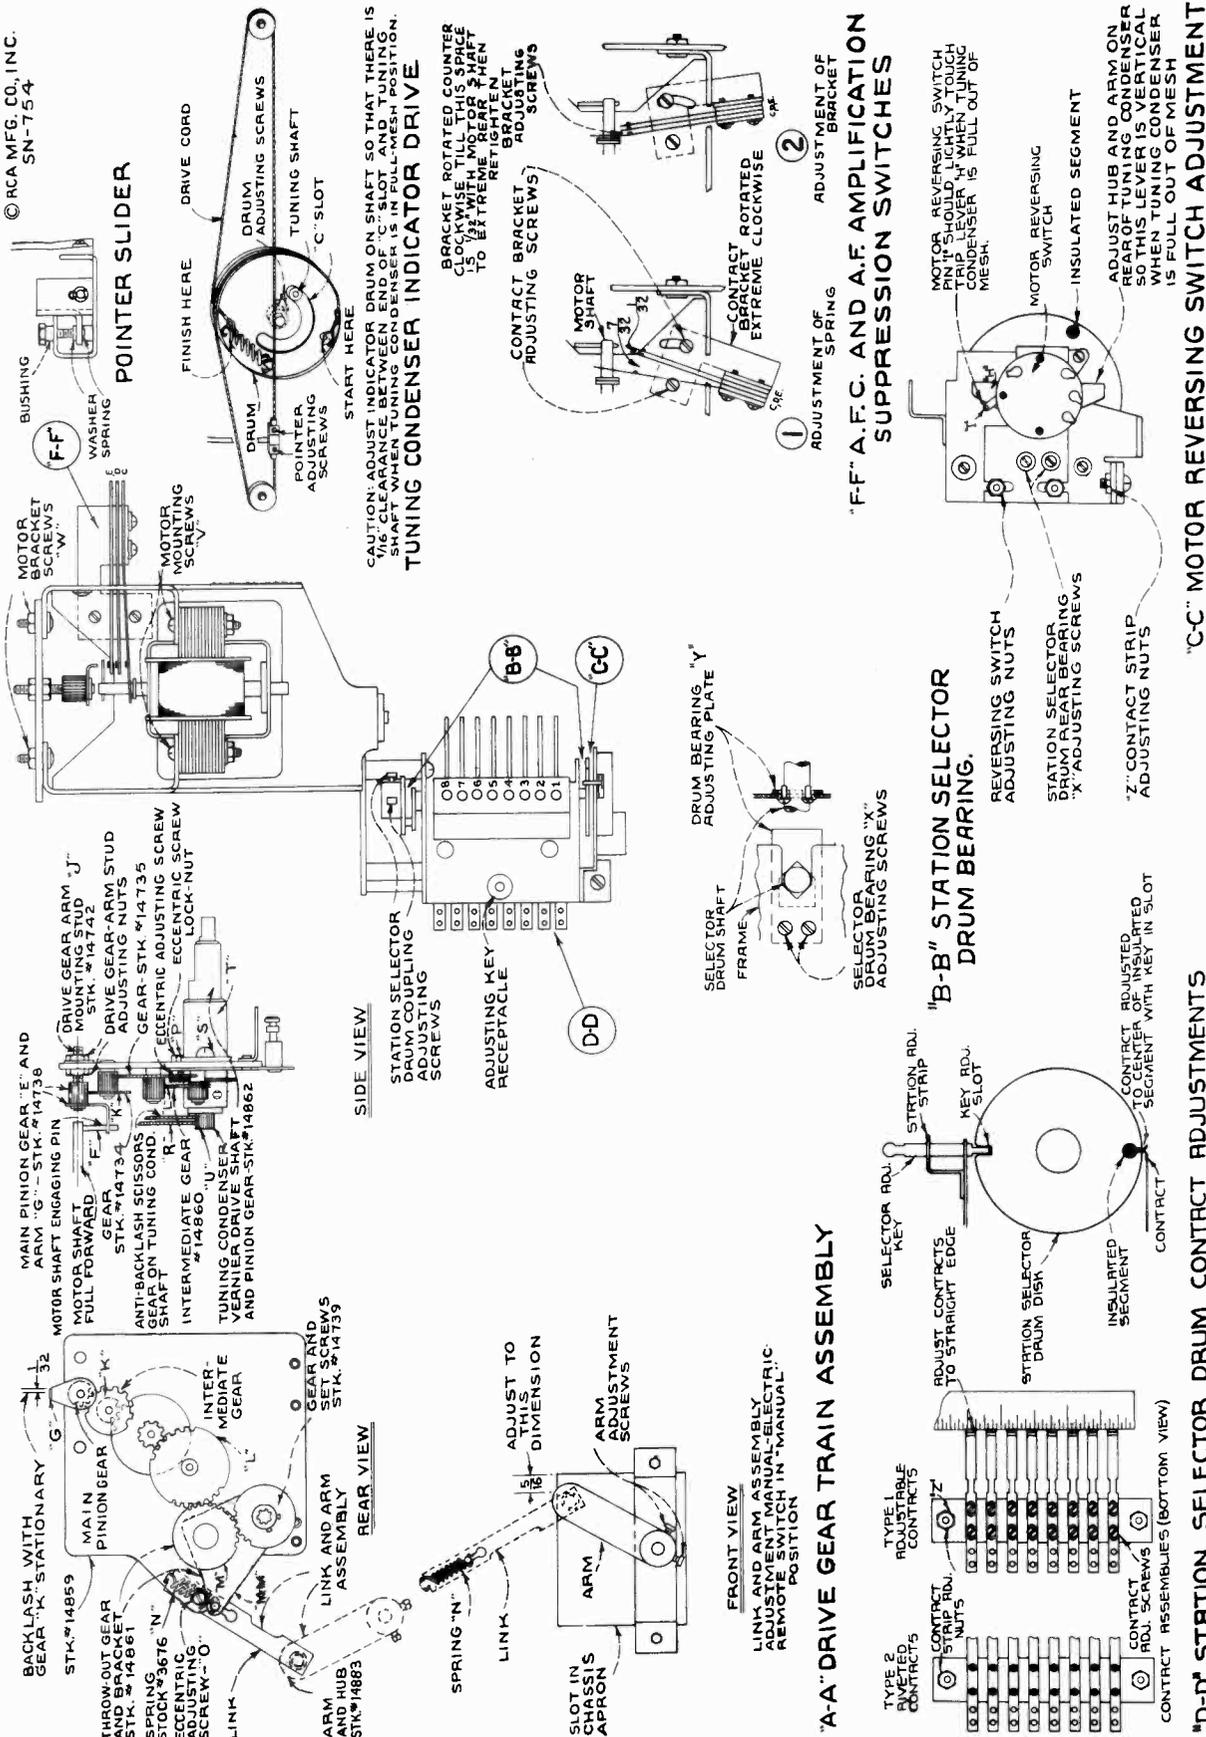

Figure 4—"Electric Tuning" Mechanism Adjustments
The electric tuning mechanism is designed to be as simple in construction and as fool proof in operation as is possible. In order to maintain the accurate results possible with this device care must be taken in effecting any repairs or adjustments. Reference should be made to figure 4 and the following:
**Station Selector Drum.**—(1) Bearing Adjustment—The selector drum may be removed by unscrewing the two bearing adjusting screws "X" on the front and rear bearings and sliding shaft out of slots on frame. To replace drum, the reverse procedure should be followed holding bearing adjusting plates "Y" firmly against the shaft and tightening adjusting screws. (2) Contact adjustment—Two types of contact strips are used. They are designated on figure 4, as types 1 and 2, on which the individual contacts are respectively adjustable and fixed. On type 1, the individual contacts should be adjusted by setting the end contact springs near the mid-position of their travel and aligning the remaining springs to them by means of a straight edge. Either type of contact strip should be adjusted to the selector drum by firmly placing two selector adjusting keys in the station adjustment strip, positions 1 and 8 (locking respective discs), loosening contact strip adjusting nuts "Z," and shifting the contact strip until the end contacts are exactly centered on the respective disc insulating segments. More accurate adjustment may be made by silhouetting the point of contact with a piece of white paper held behind the contact. Adjustment will be facilitated by removing complete assembly from rear of tuning condenser by unscrewing the three mounting screws. Contacts and discs must be kept free of dirt, filings, and other extraneous matter.
**Lubrication.**—The dial pointer slide should be greased with petrolatum. This same lubrication should be applied lightly to all gear faces of the drive mechanism and sparingly with a cloth to the station selector discs. Any good household oil, such as "3-IN-ONE," is suitable for the motor shaft bearings. A light grade of engine oil should be used for all gear bearings. Medium viscosity engine oil, similar to "PYROIL" (B), should be applied between the thrust washers on the motor shaft. "CASTORDAG," a mixture